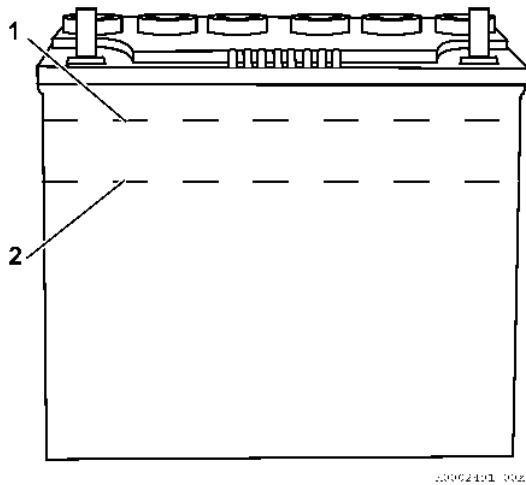

Figure 40
6. Carefully fill the battery with electrolyte up to the upper level line (**Figure 40, (1)**).
8. After letting battery stand, top off battery with electrolyte, if needed, so it is at the upper level line (**Figure 40, (1)**). Battery level should never be below the lower level line (**Figure 40, (2)**).